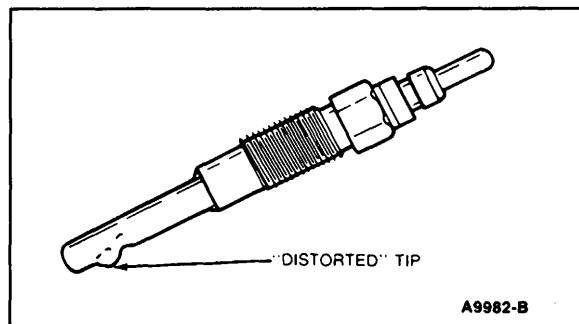

Figure 24 Distorted Tips
- Multiple, distorted glow plugs are usually caused by electrical overheating (Fig. 24). A complete evaluation of the glow plug control system should be made.